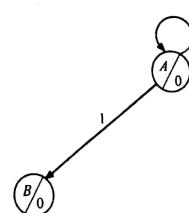

Fig. 8.3 State design after step 1
**Step 1:** Start at state  $A$ . If  $x=0$ , remain at  $A$  implying zero 1s and if  $x=1$ , go to state  $B$ , implying the occurrence of one 1, as shown in Fig. 8.3.